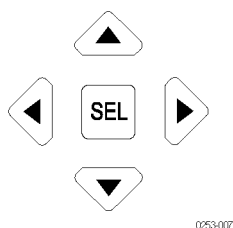

Figure 2: Navigate menus using the arrow keys and select button
4. Use the up and down arrow keys to select parameters in a menu. (See Figure 2.)